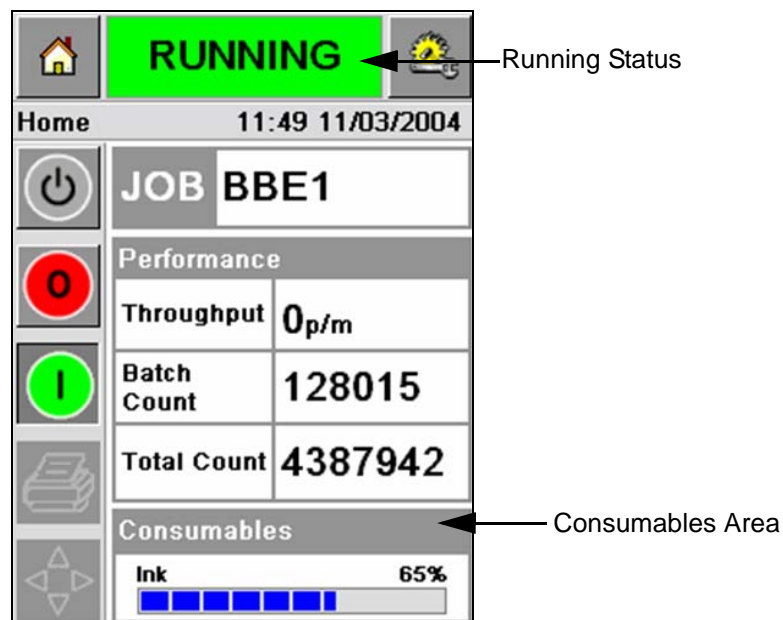
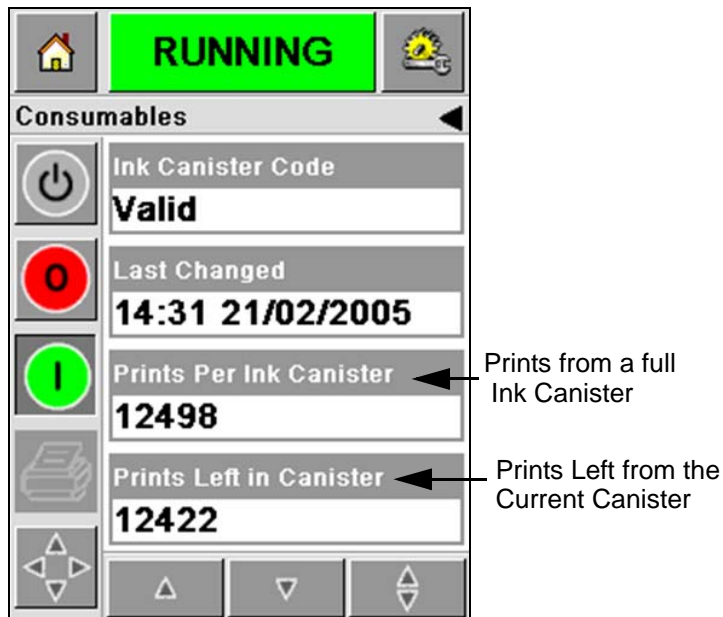

Figure 4-14: Consumables Area - Running
Figure 4-15: Number of Prints
- 1 Touch the *Consumables* area on the Home screen during the printer *Running* status (Figure 4-14). The *Consumables* screen that displays the number of prints (Figure 4-15 on page 4-13) appears.